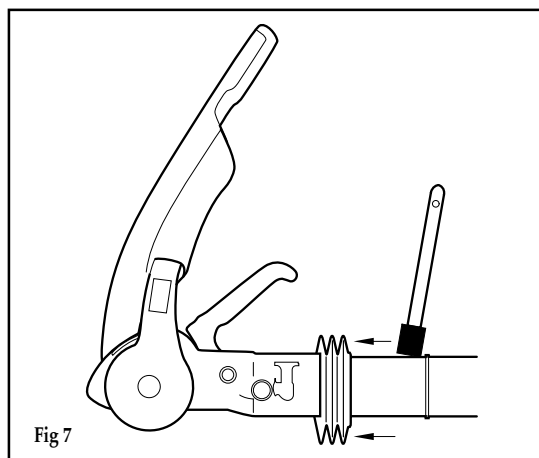

Fig 7
- Remove the locking bolt socket key. (fig 7).
- b) Lubricate the drawshaft sleeve via the grease nipples. In addition, push the gaiter forward and grease (DIN 51 825 KTA 3K) the exposed part of the shaft (Fig. 7).